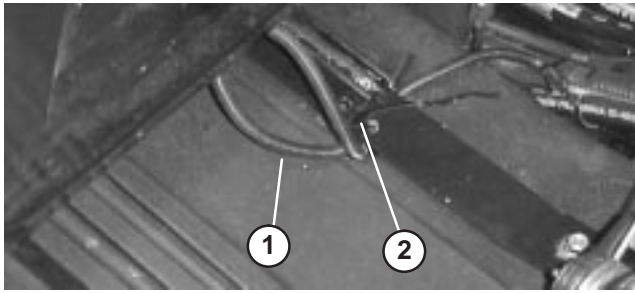

Figure 6
6. On deluxe seat only, route unused seat switch connector back under seat strap and secure both wires to rear most hole in seat strap (Fig. 6) with a cable tie (cable tie supplied with seat kit).